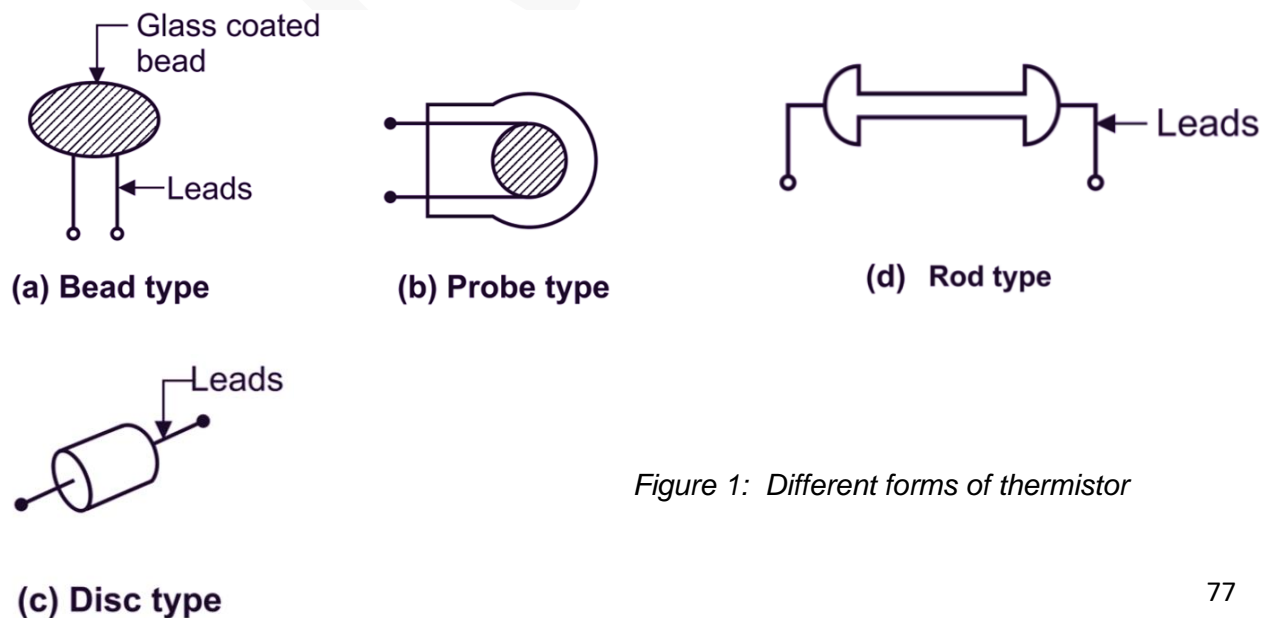

Figure 1: Different forms of thermistor
- The commercial thermistors are made in the form of **beads, probes, discs, and rods** in a variety of sizes as shown in Figure 1.